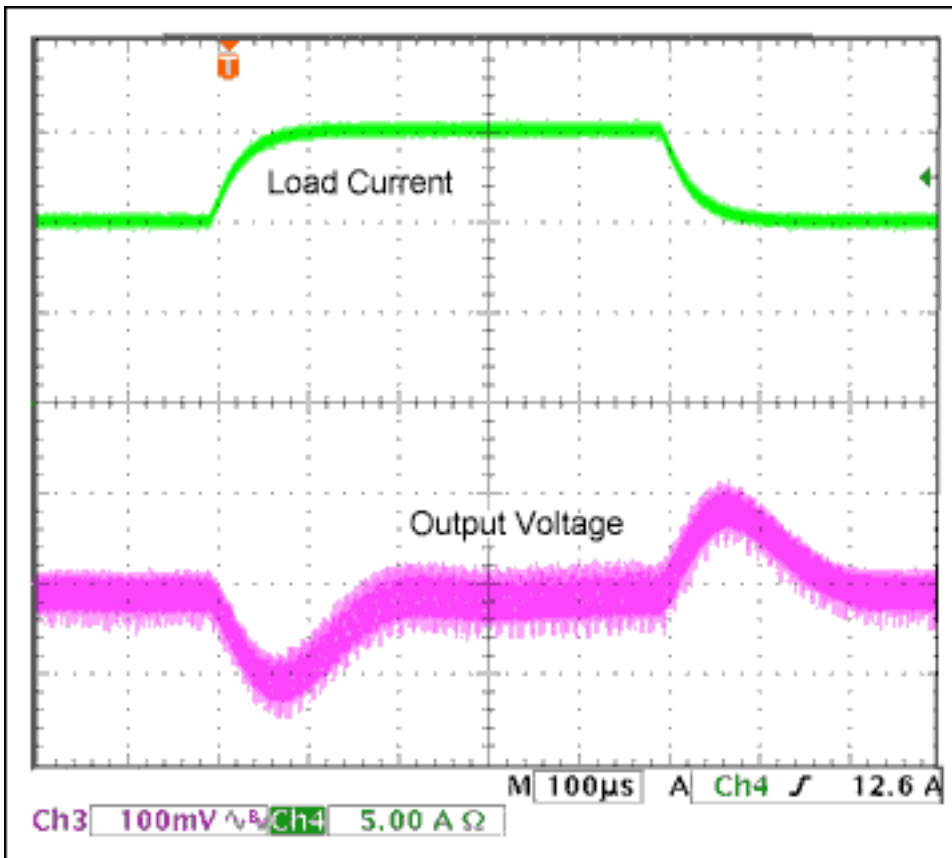

Figure 4. Output voltage deviation for step load increase and decrease. Load current slew rate is approximately  $0.1 / \mu\text{s}$ .
2. Transient Response (**Figure 4**), and